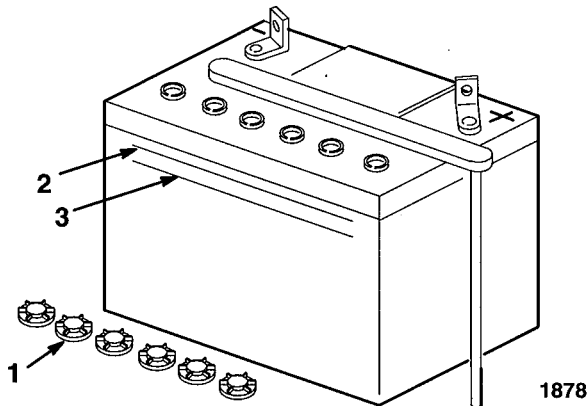

Figure 31
2. Look at the side of the battery. The electrolyte must be up to the "UPPER" line (Fig. 31). Do not allow the electrolyte to get below the "LOWER" line (Fig. 31).
2. Unscrew the filler caps (Fig. 31).
3. Slowly pour distilled water into each battery cell until the level is up to the "UPPER" line (Fig. 31) on the battery case.